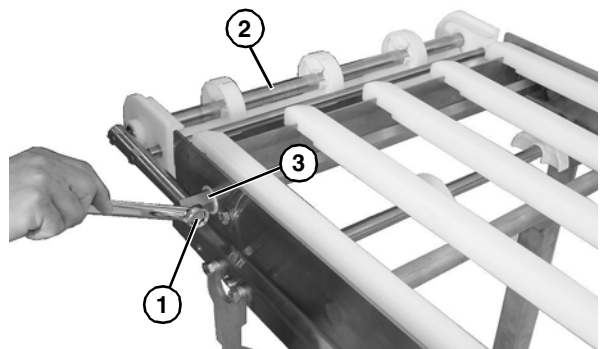

Figure 61
1. Remove bolt (**Figure 61, item 1**) from each side, and remove idler tail assembly (**Figure 61, item 2**) from take up blocks (**Figure 61, item 3**).